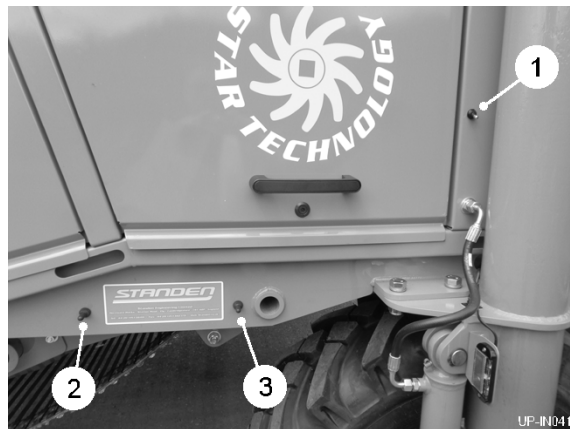

Fig 15
1. Lift and set the selector switch (item 1, fig 15) to 'CROSS CONVEYOR FOLD'.
2. While holding the power switch (item 2, fig 15), carefully lower the cross conveyor using the switch (item 3, fig 15).
3. When fully lowered, reset the selector switch (item 1, fig 15) to 'CROSS CONVEYOR SIDE SHIFT'. The switches item 2 & 3, fig 15) now control the conveyor 'side shift' function, which can also be operated from the joystick on the tractor control box.
2. Lift and set the selector switch (item 1, fig 15) to 'CROSS CONVEYOR FOLD'.
3. While holding the power switch (item 2, fig 15), carefully raise the cross conveyor using the switch (item 3, fig 15).